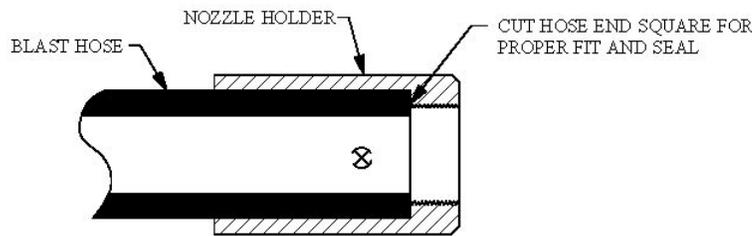

Figure 8.3 – Hose End Fit up
- 8.8. **Blast/Air Hose Coupling Gaskets:** All air hose, blast hose, and threaded couplings have gaskets that seal the connection. To reduce loss of air pressure and/or premature abrasive wear replace these gaskets when leaks are found. Inspect the couplings daily for leaks and wear. Replace gaskets when visible wear or leaks are found. When installing or replacing hose couplings cut the hose end square for secure fit (see Figure 8.3). To assure proper coupling connection always use fittings that are the same brand. See the drawings and part lists in Sections 9.1 and 9.2.